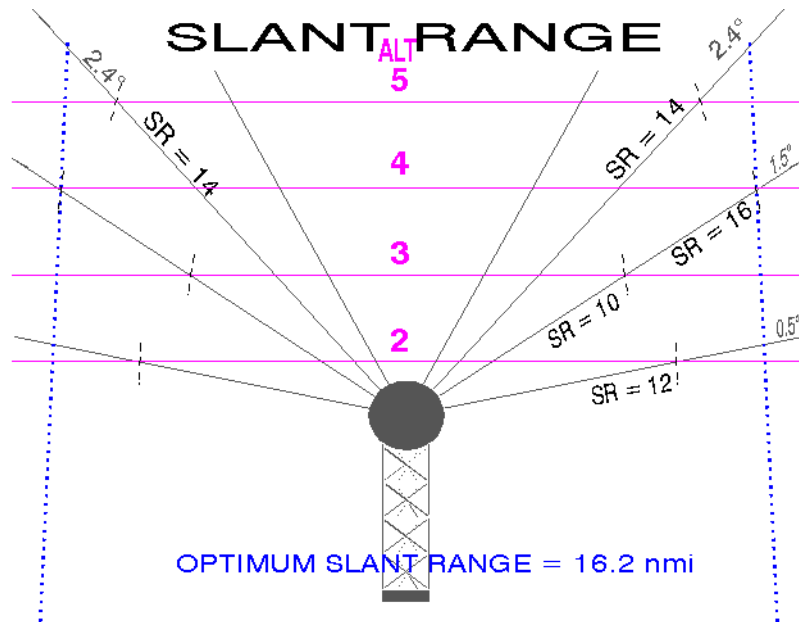

Figure 5-68. Slant Range
1. The VAD winds are computed using a single elevation angle at a constant **slant range**. For each altitude requested on the VAD Wind Profile, the VAD Algorithm selects the elevation angle that is closest to intersecting that altitude at the **VAD range** (adaptable parameter with a default of 30 km or 16.2 nm). The actual slant range will change dependent upon the altitude for which the VAD wind is being calculated. (See Fig. 5-68 on page 5-121.)